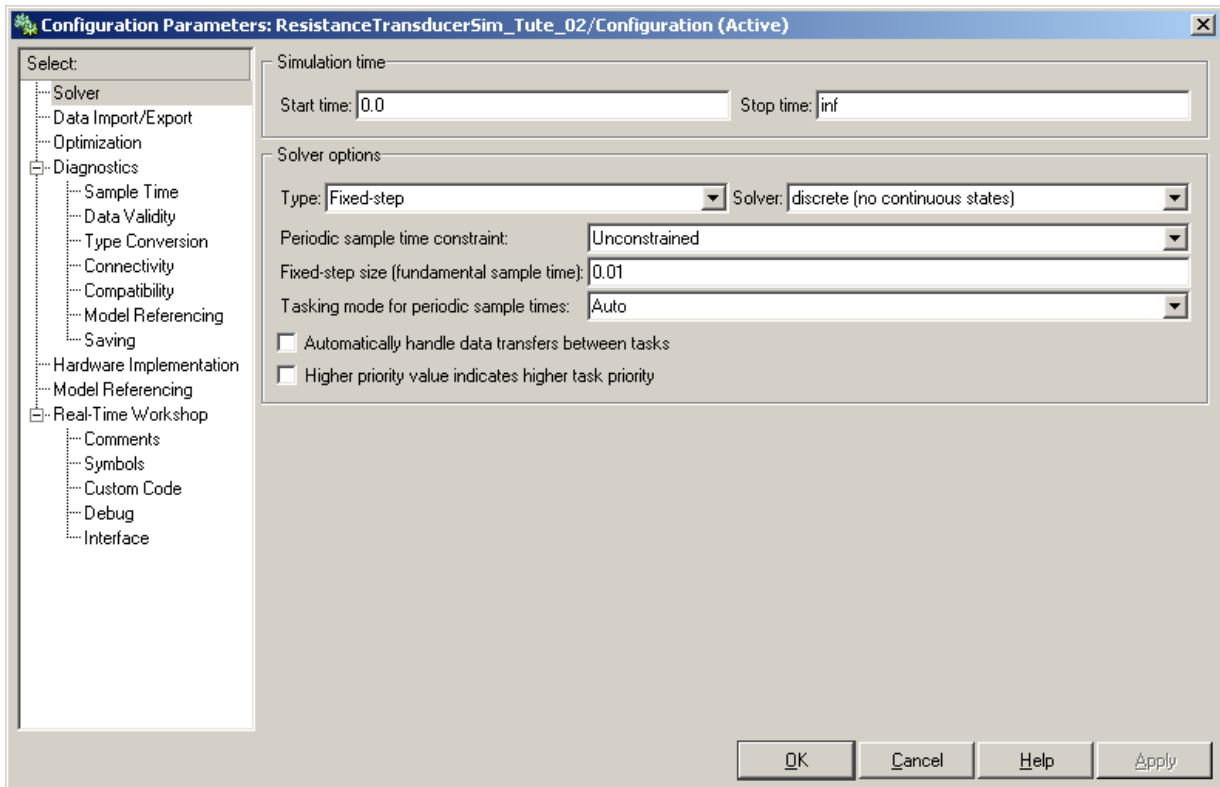

Figure 5 Configuration of simulation parameters
- Configure simulation parameters of the Simulink model as in **Fig. 5** below.